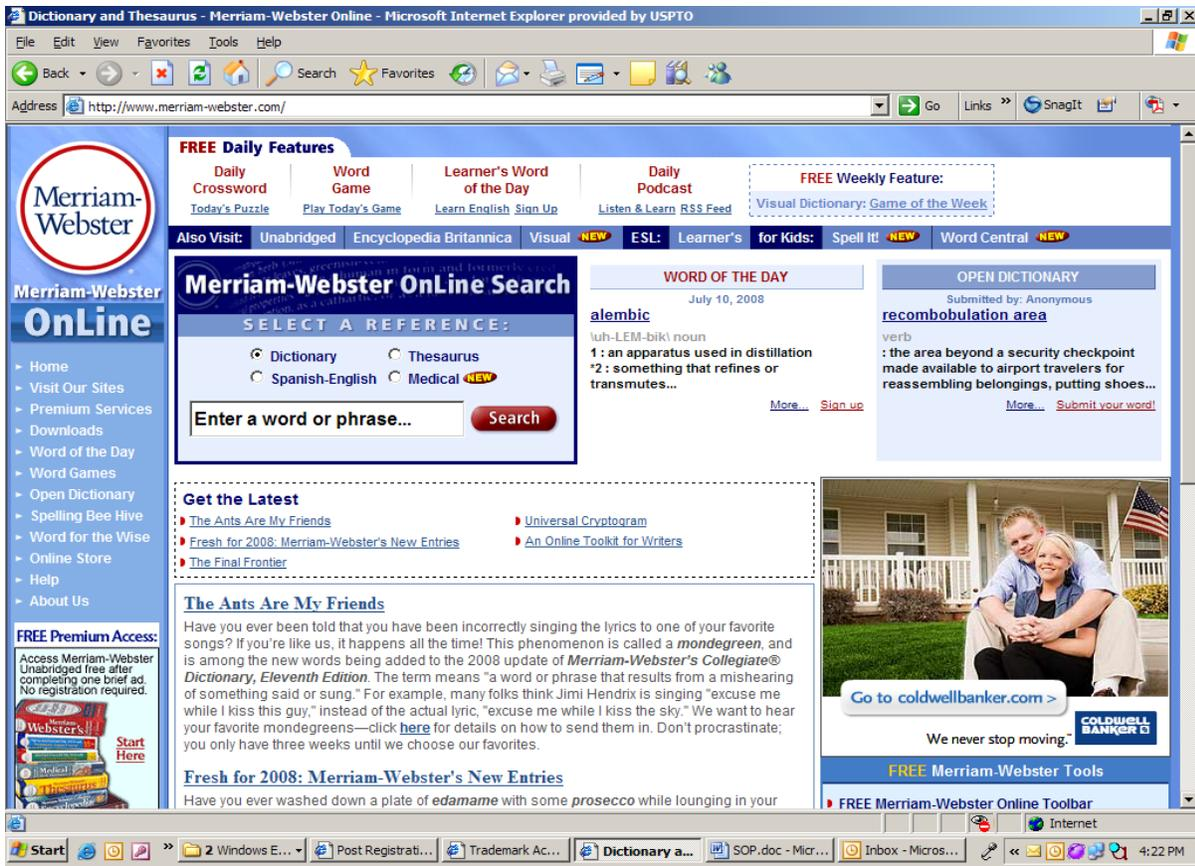

Figure 1-4: The Dictionary Tool: The Merriam Webster Online Homepage
Step 1: Double-click on Merriam-Webster Online icon Dictionary Tools.Ink on the desktop, which opens the dictionary tool (Figure 1-4).
Step 2: Enter a word in the search field and click “Search” to find the definition of the word (Figure 1-4).